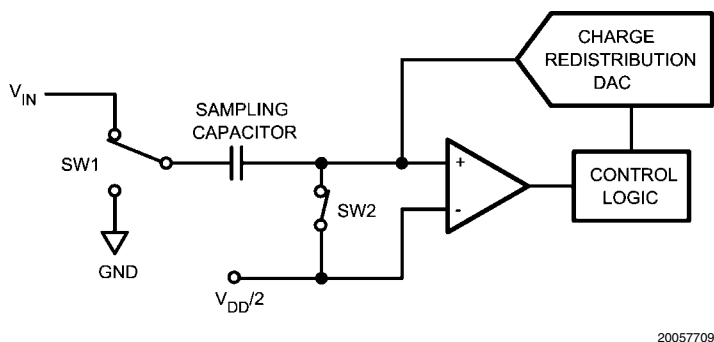
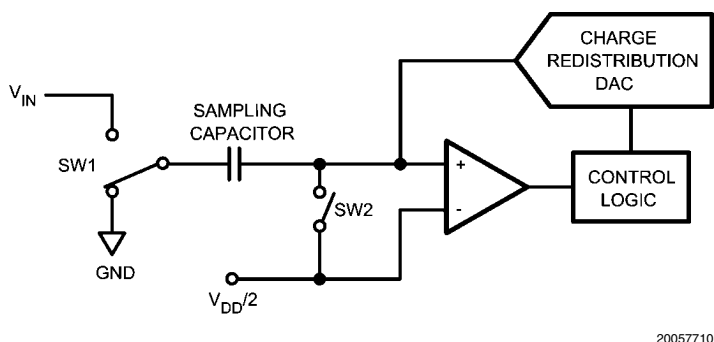

FIGURE 4. ADCS7476/77/78 in Track Mode
FIGURE 5. ADCS7476/77/78 in Hold Mode
The ADCS7476/77/78 are successive-approximation analog-to-digital converters designed around a charge-redistribution digital-to-analog converter. Simplified schematics of the ADCS7476/77/78 in both track and hold operation are shown in *Figure 4* and *Figure 5*, respectively. In *Figure 4* the device is in track mode: switch SW1 connects the sampling capacitor to the input, and SW2 balances the comparator inputs. The device is in this state until  $\overline{CS}$  is brought low, at which point the device moves to hold mode.
*Figure 5* shows the device in hold mode: switch SW1 connects the sampling capacitor to ground, maintaining the sampled voltage, and switch SW2 unbalances the comparator. The control logic then instructs the charge-redistribution DAC to add or subtract fixed amounts of charge from the sampling capacitor until the comparator is balanced. When the comparator is balanced, the digital word supplied to the DAC is the digital representation of the analog input voltage. The device moves from hold mode to track mode on the 13th rising edge of SCLK.